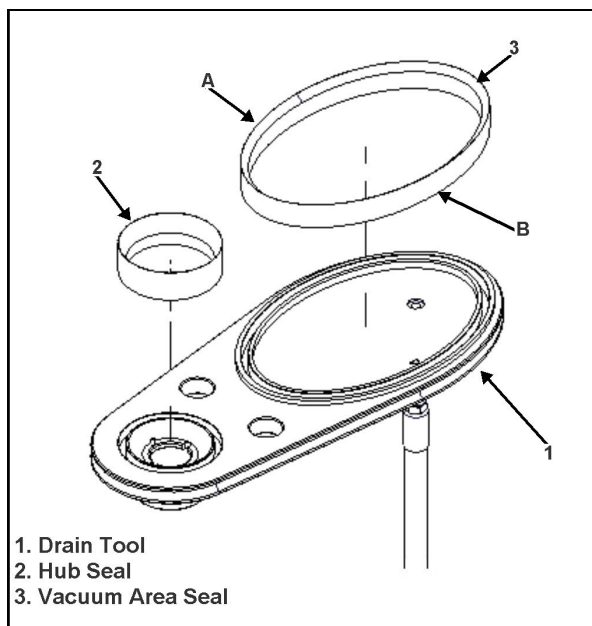

Figure 3-4 Changing Drain Tool Seals
The Drain Tools use two functional seals. The Hub Seal, (see Figure 3-4) creates a seal around the Fuel Probe. The Vacuum Area Seal (3), creates the vacuum area that allows the Drain Tool to adhere to the airframe. The Oval and Elongated Drain Tools use either the Flat Vacuum Area Seal or the Contoured Vacuum Area Seal, depending on the surface profile. To determine which seal should be used for a specific airframe, follow the steps listed in this section.
To change either the Vacuum Seal or the Hub Seal, follow the steps described below. See Figure 3-4.
To change either the Vacuum Seal or the Hub Seal, follow the steps described below. See Figure 3-4 .